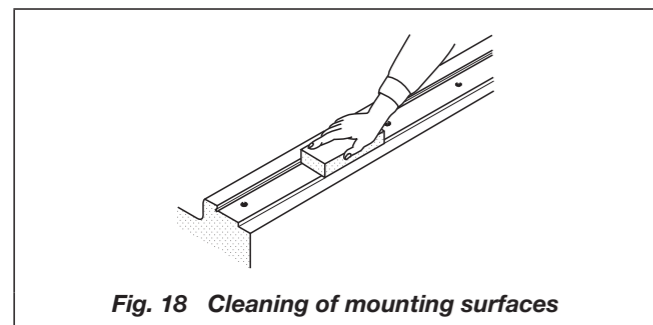

Fig. 18 Cleaning of mounting surfaces
- Remove burrs and blemishes from the reference mounting surfaces and mounting surfaces of the machine using an oil-stone, etc. and then wipe the surfaces with clean cloth. (See Fig. 18.)